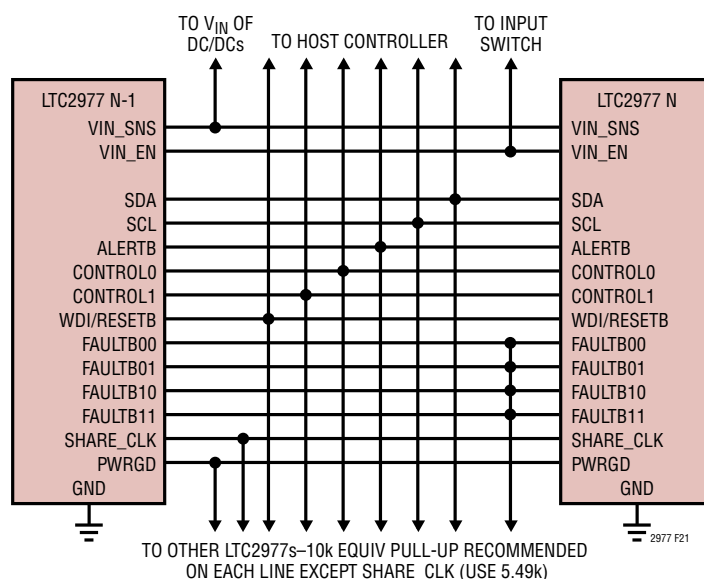
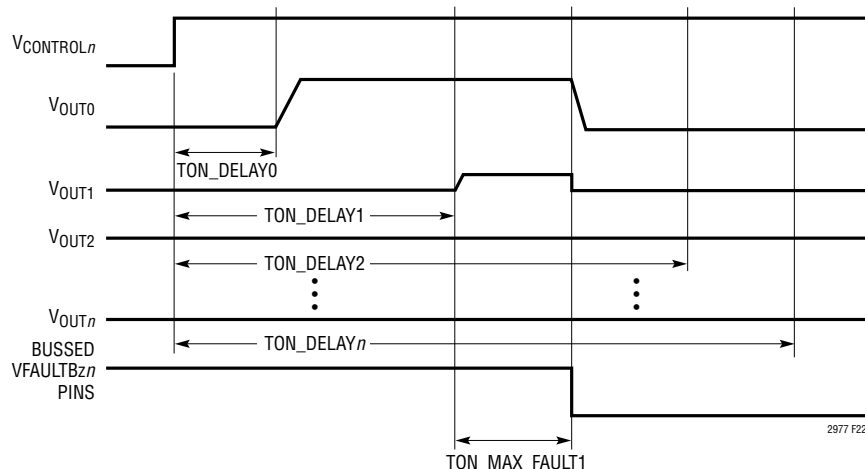

Figure 21. Typical Connections Between Multiple LTC2977s
Figure 22. Aborted On Sequence Due to Channel 1 Short
Figure 21 shows how to interconnect the pins in a typical multi-LTC2977 array.
- The FAULTB $_zn$ lines can be connected together to create fault dependencies. Figure 21 shows a configuration where a fault on any FAULTB $_zn$ will pull all others low. This is useful for arrays where it is desired to abort a start-up sequence in the event any channel does not come up (see Figure 22).
- PWRGD reflects the status of the outputs that are mapped to it by the MFR_PWRGD_EN command. Figure 21 shows all the PWRGD pins connected together, but any combination may be used.